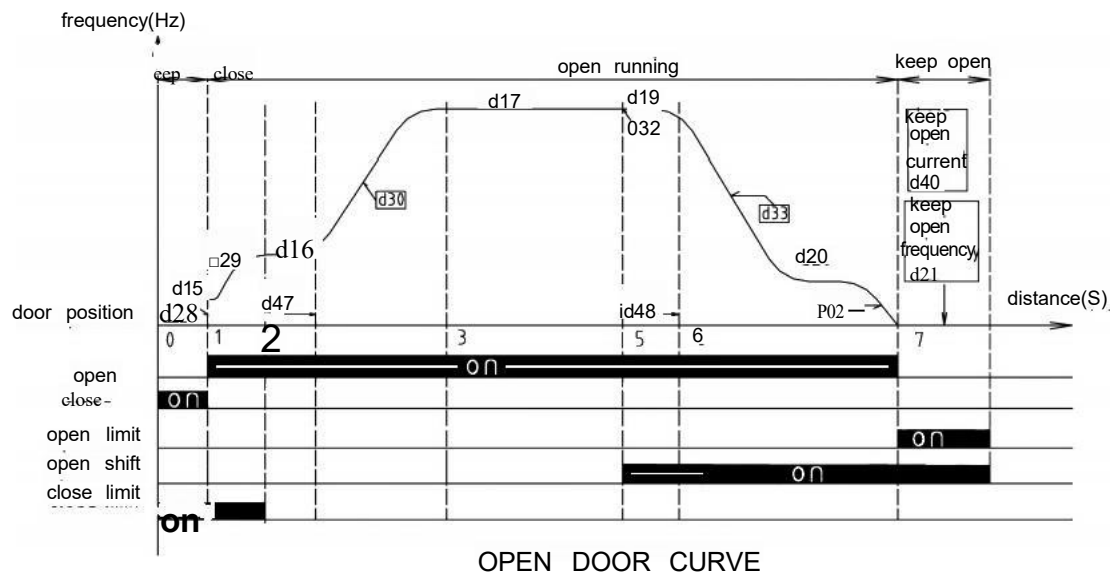
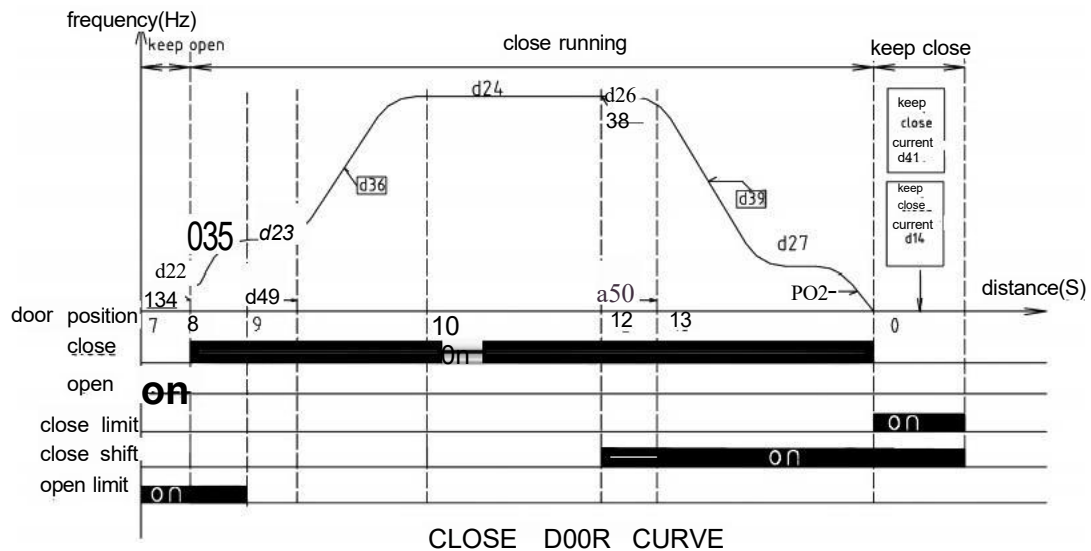

Figure 2
Figure 3
Before the door controller is sent out from factory,the Autotune of door width pulses and function parameters are completed.If user requires getting preferable running curve,he can modify the corresponding parameters refer to fig.2 &fig.3.
- 2.Refer to fig.2 &fig.3 and corresponding parameters(page:4,5),to get better capability through adjusting door running curve.